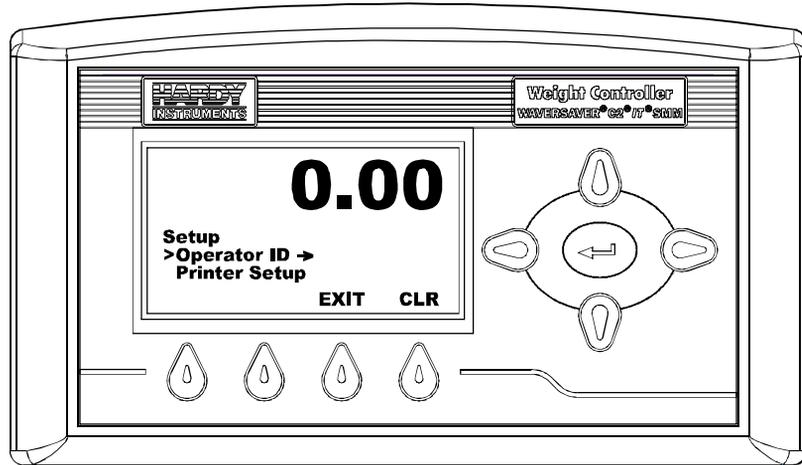

FIG. 88 SETUP MENU/SELECTING OPERATOR ID
Step 1. Press the Down Arrow button until the cursor is in front of Operator ID. (See Fig. 88) The last Operator ID is displayed.